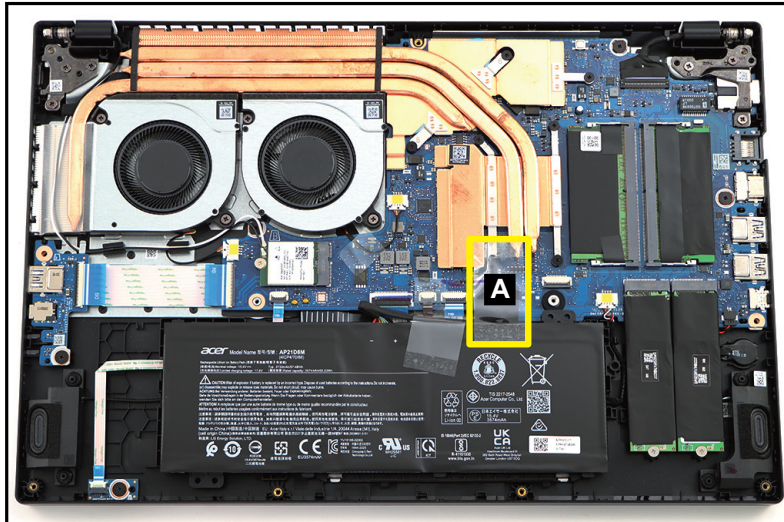

Figure 1-5. Battery Pack Removal
1. Detach the mylar (A) as shown in Figure 1-5.